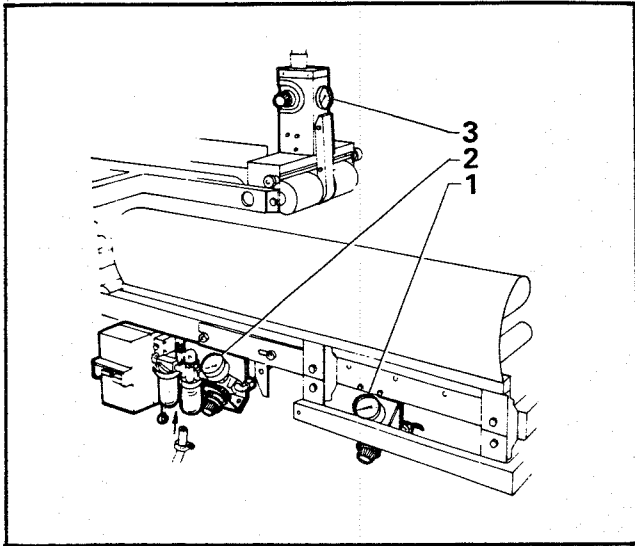

Figure 10 - Pneumatic Regulators
1. **Air Pressure Regulator** (Item 1, Figure 10) - Set nominally at 50 PSIG [3.5 Kg/cm² gauge pressure], but adjust according to weight of the boxes being sealed to provide adequate pressure to positively center the boxes, but low enough to allow easy pushing of the boxes under the top taping head. This operator function takes place with the side guides pressing against the box.
1. **"UP" Movement Air Pressure Regulator** (Item 2, Figure 10) - Set at 70 PSIG [5 Kg/cm^2 gauge pressure] to power the "up" movement of the top taping head.
2. **"Down" Movement Air Pressure Regulator** (Item 3, Figure 10) - Set nominally at 25 PSIG [1.8 Kg/cm^2 gauge pressure] to control "down" movement of top taping head and the top taping head pressure exerted against the box. The regulator setting is changed as necessary for the boxes being sealed to provide adequate top taping head pressure against the box to positively convey the boxes through the machine. If the boxes stop or hesitate while being conveyed, decrease the regulator pressure which will increase the top taping head pressure on the box for more friction between the box and drive belts. Adjust setting as necessary to get continuous movement of boxes through machine.